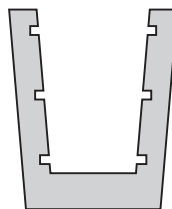

Fig. 15
- (d) Fig. 15 shows a template that could be used to mark out a large quantity of frames.